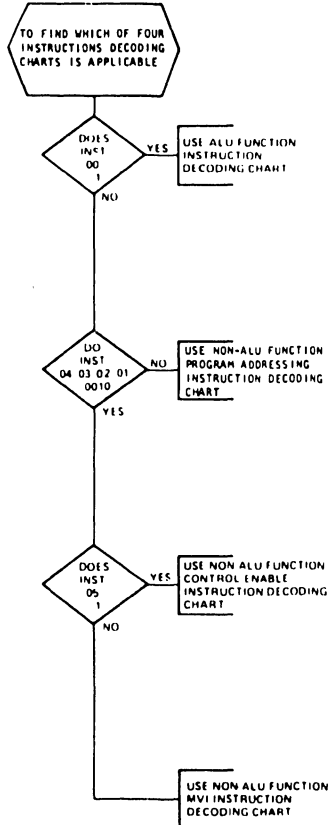

Figure 2-32. 20-Bit Processor CCA
The Processor CCA executes four (4) types of micro-instructions. The format of each instruction word defines which one (1) of four (4) types is to be performed. **Figure 2-32** diagrams the micro-instruction format for each of the following types:
1. ALU Functions - As shown in **figure 2-32**, signal INST00, when equal to one (1), indicates that an ALU function is to be executed. The ALU, U32 and U51 (SH 25), is capable of performing 16 logical and 16 arithmetical operations for a total of 32 functions. INST01, the mode control, indicates a logical function when high and an arithmetical function when low.
Each instruction specifying an ALU function must also control ALU data input and output lines. Inputs to the ALU are controlled by the Register Enable (INST0A through INST0E) and Device Enable (INST0F through INST13) segments of the instruction word. See figure 2-32.